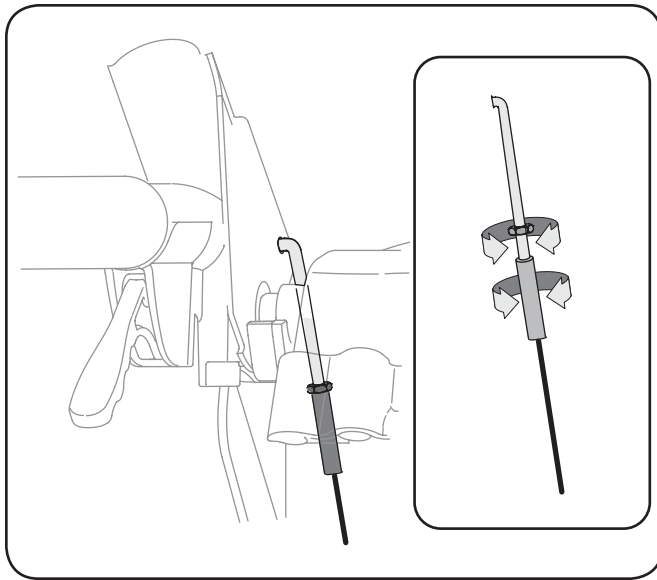

Figure 6-7
3. Thread the ferrule without turning the cable onto the “Z” fitting until there is no slack in the cable. See Fig. 6-7. Do not overtighten the cable. Hold the flats on the ferrule with pliers and tighten the jam nut against the ferrule.
5. Retighten the hex jam nut. See Fig. 6-7.